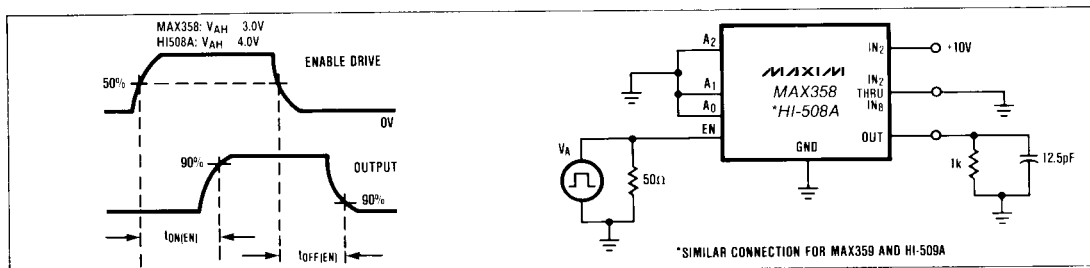

Figure 3. Enable Delay ($t_{ON(EN)}$, $t_{OFF(EN)}$)
| Enable Delay (ON) | $t_{ON(EN)}$ | (Figure 3) | +25°C Full | 300 | 500 1000 | | 300 | 1000 | | ns |
| Enable Delay (OFF) | $t_{OFF(EN)}$ | (Figure 3) | +25°C Full | 300 | 500 1000 | | 300 | 1000 | | ns |